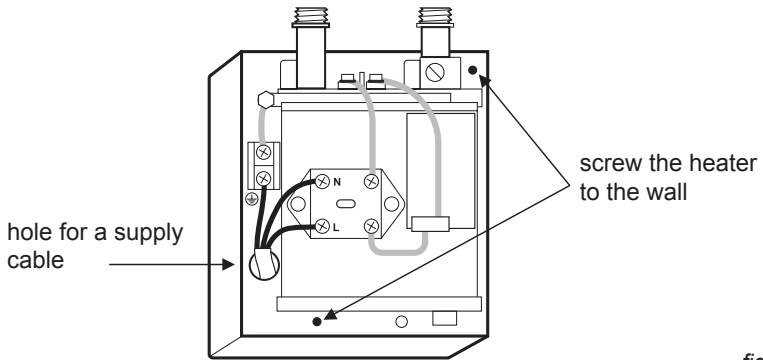
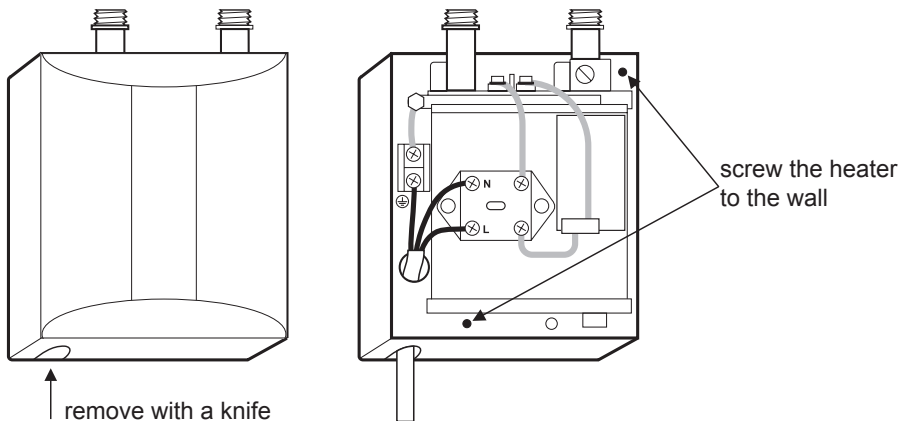

fig. 3
fig. 4
1. Put the template to the place where the heater is to be installed. Then, mark the places where the holes for rawplugs and the hole for a supply cable will be drilled. The supply cable can be connected to the heater in two different ways illustrated in figure 3 and figure 4.